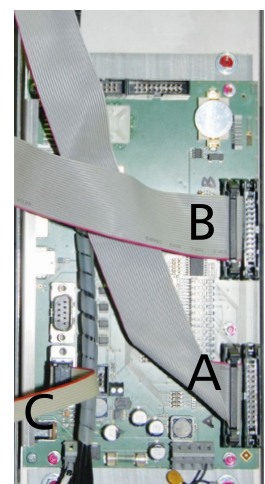

fig. 3.1-35
Step 26: Now you can connect the plugs of the flat ribbon cables "A" and "B" to the control panel in the right stainless steel frame cover (**fig. 3.1-35**).